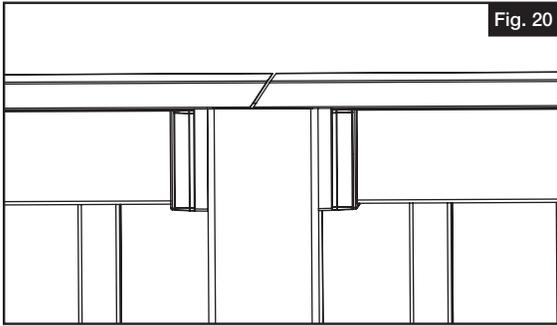

Fig. 20
- If installing deck board over the top of the posts and the railing run length is greater than the maximum length of deck board, you will need to have a connection seam. It is recommended to do 45 degree miter joints at the corners and 22.5 degree scarf joints (Fig. 20) for in-line connections. Seal joints with glue or caulk.